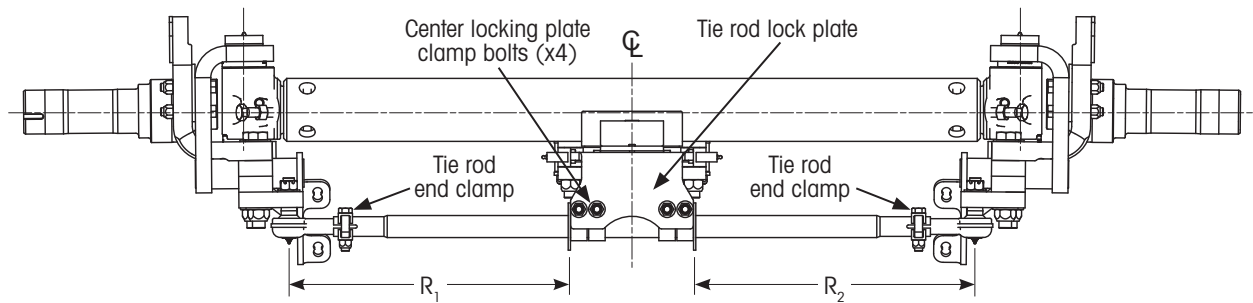

Figure 31: Tie rod end clamp orientation
- C. **Measure** to ensure Figure 31, $R_1 = R_2 \pm 0.09$ inch (2.3 mm).